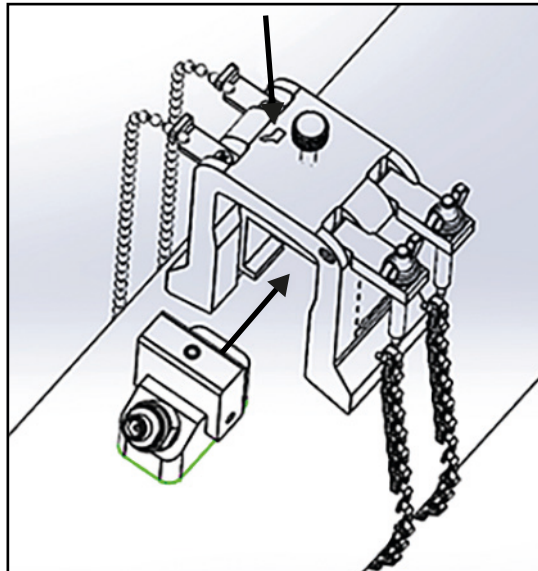

Figure 32: Insert Transducer into Yoke
8. Loosen the yoke screw. Then, apply couplant to the transducer face and insert the transducer into the yoke, as shown in *Figure 32*.